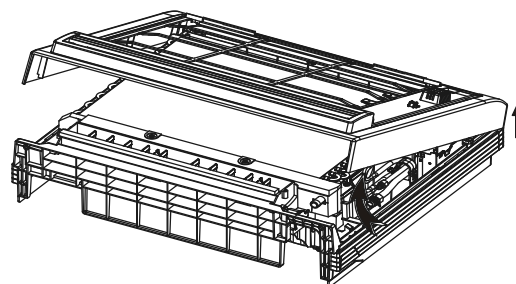

Fig.43-8
- Opening bottom of face plate for a angle that is 30 degrees, then the top of face plate will be take up. (Refer to Fig.43-8)